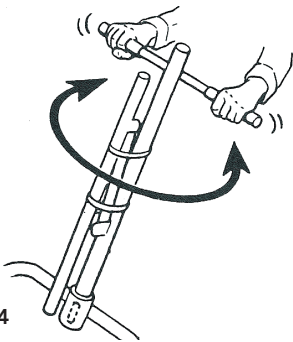

Fig. 4
5. Twist the mast assembly to make sure that the notch is locked in with the **TABS** of the socket (see Fig. 4)